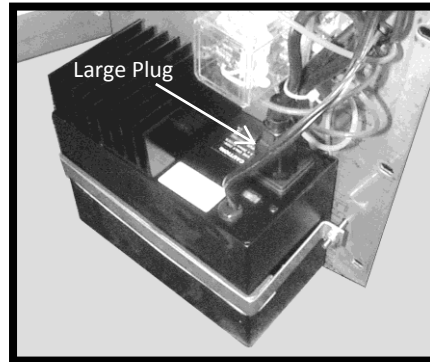

Figure 7: Battery Charger
4. Remove the large plug from the battery charger (Figure 7).